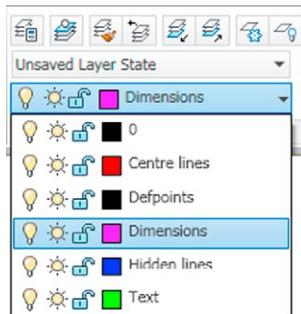

Fig. 6.3 The Home/Layers panel – making Dimensions layer current
2. Make the **Dimensions** layer current from the **Home/Layers** panel (Fig. 6.3).